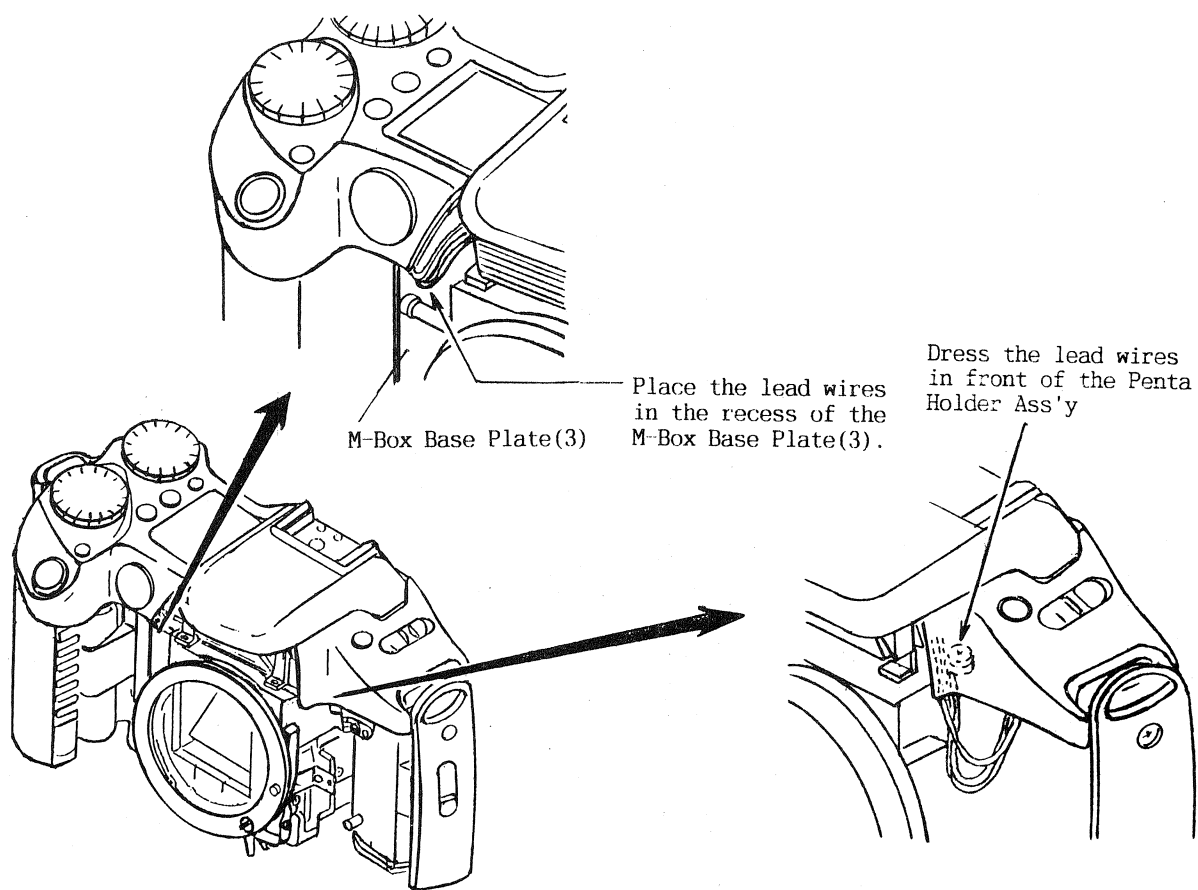

Fig.5
- b) After installing the Top Cover Ass'y, dress the lead wires as shown in Fig.5.